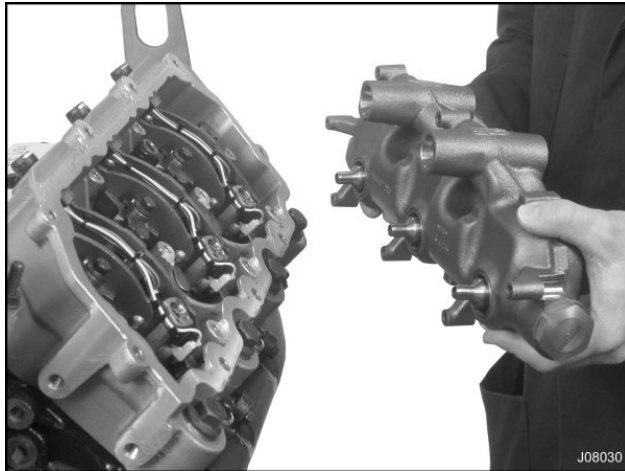

Figure 11 Align Oil Rail Assembly to Injector Oil Inlets
23. Using both hands, align the oil rail assembly with the oil inlets of each fuel injector. Push down evenly until oil rail assembly is firmly seated (Figure 11).